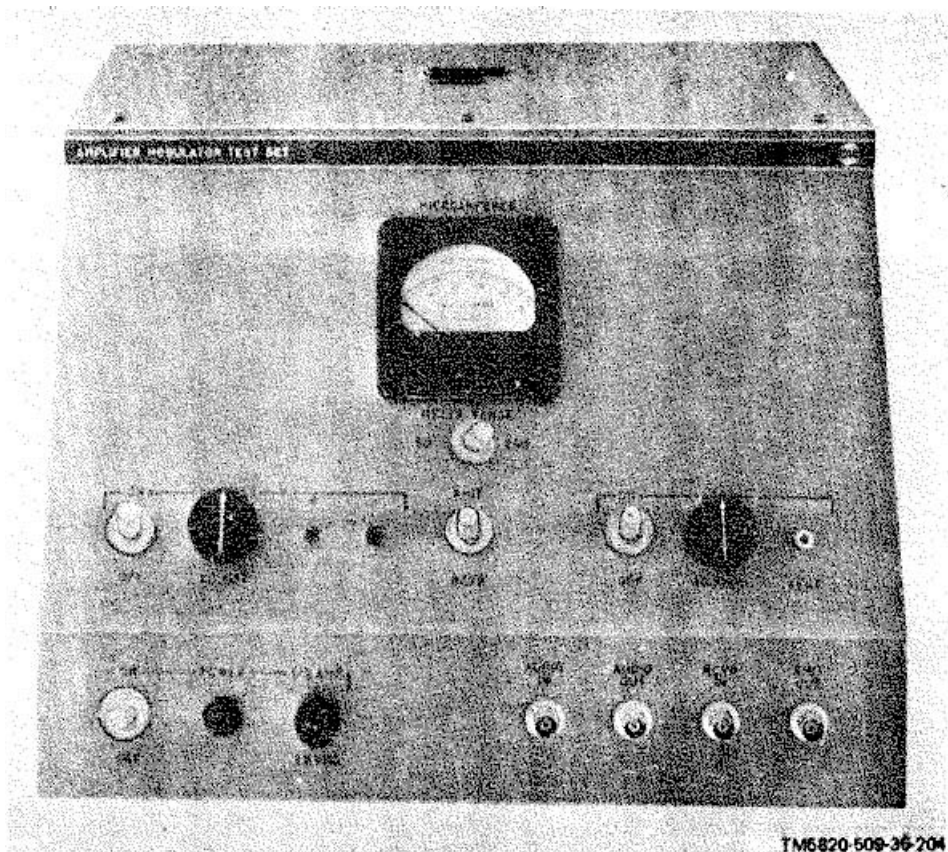
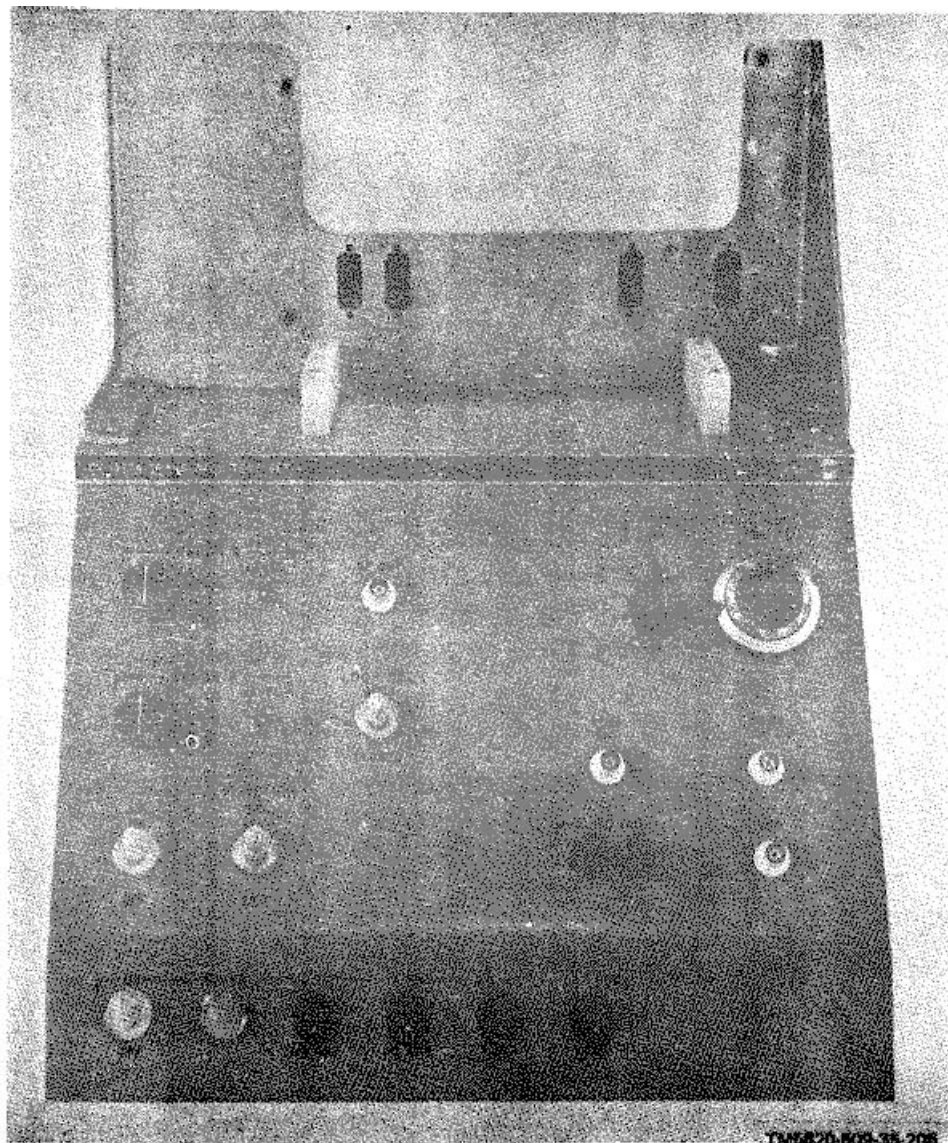
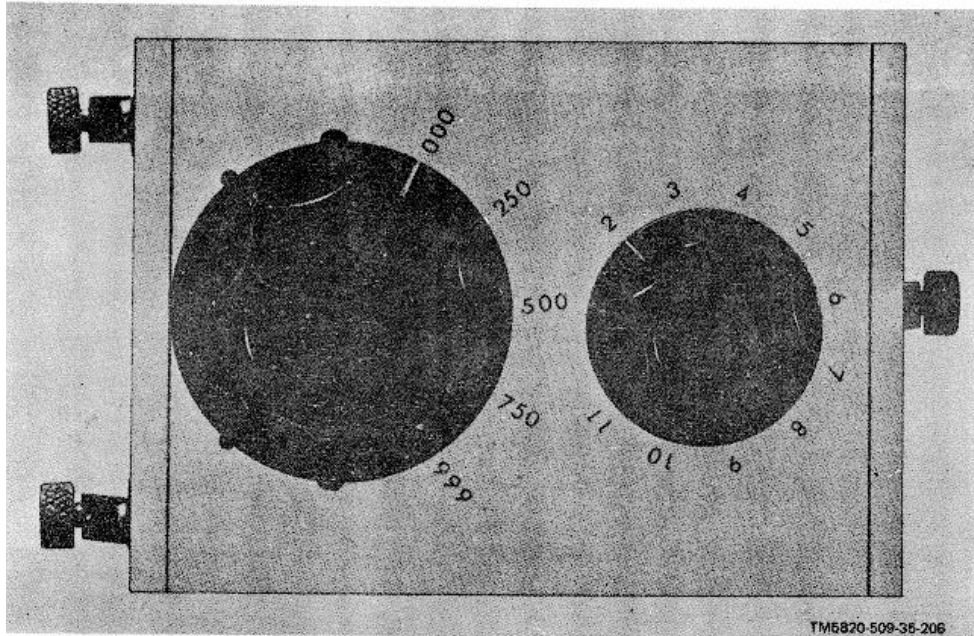
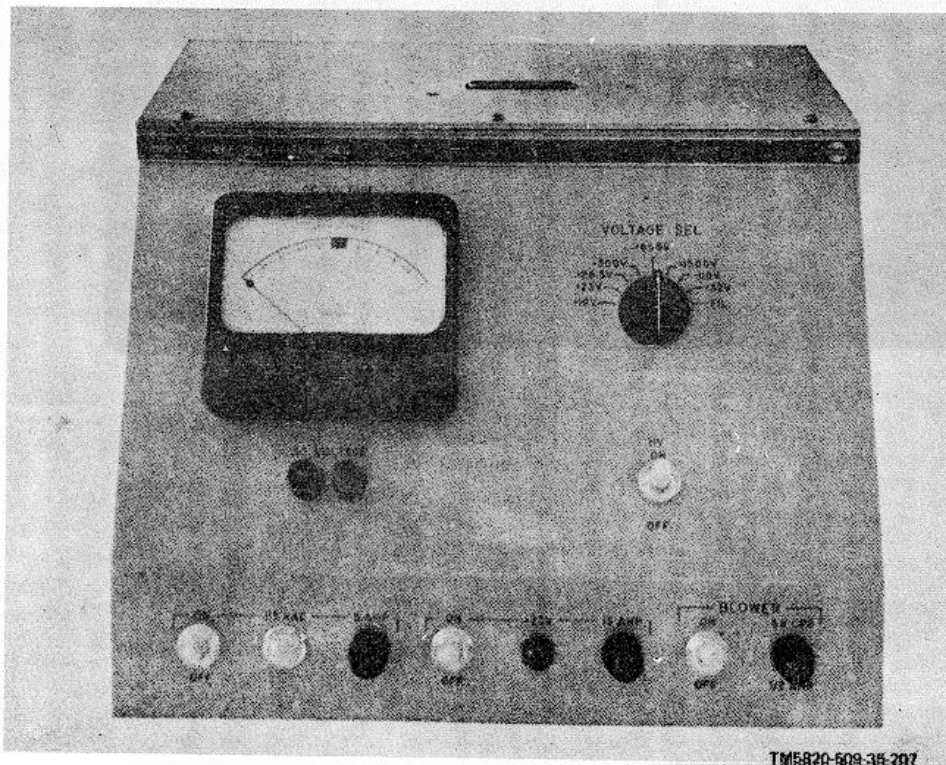

Figure 6-5. Test Fixture for AM-3507/PRC-47, Suggested Layout.
Figure 6-6. Test Fixture for CV-1377A/PRC-47, Suggested Layout.
Figure 6-7. Indexing Fixture for CV 1377A/PRC, Suggested Layout.
Figure 6-8. Test Fixture for PP-3518/PRC-47, Suggested Layout.
| Test fixture for AM-3506/PRC-47 | | Fig. 6-5 |
| Test fixture for AM-3507/PRC-47 | | Fig. 6-6 |
| Test fixture for CV-1377A/PRC-47 | | Fig. 6-7 |
| Indexing fixture for CV-1377A/PRC-47 | | Fig. 6-8 |
- (1) Initial settings and adjustments.
- (2) Maximum output levels, receive mode.
- (3) Frequency response and distortion, receive mode.
- (4) AVC signal gate operation, receive mode.
- (5) Harmonic distortion and frequency response, transmit mode.
- (6) Frequency response at nominal output, transmit mode.
- (7) CW oscillator operation test.6-7.
b. *Amplifier-Modulator AM-3507/PRC-47*. The following tests must be performed using the test fixture for AM-3507/PRC-47 (fig. 6-5). A schematic diagram, parts layout photographs, and parts lists for this test fixture are included in section III.
- (2) Output, receive mode.
- (3) Distortion.
- (4) Selectivity.
- (5) Response, receive mode.
c. *Signal Data Translator CV-1377A/PRC-47*. The following tests are to be performed using the test fixture for CV-1377A/PRC-47 (fig. 6-6) together with the indexing fixture (fig. 6-7). Configuration drawings, parts layout photographs, parts lists and schematic diagrams for these test fixtures are included in section III.
- (1) Mechanical alignment.
- (2) 5- to 14-MHz ringer circuit alignment.
- (3) Oscillator output adjustment.
- (4) Oscillator alignment and tracking adjustment
- (5) Rf alignment, receive mode.
- (6) Rf alignment, transmit mode.
- (7) Oscillator control isolation amplifier test.
d. *Power Supply PP-3518/PRC-47*. The following tests must be performed using the test fixture for PP-3518/PRC-47 (fig. 6-8). A schematic diagram, parts layout photographs, and parts lists for this test fixture are included in section III.
- (2) Performance tests, 26.5-volts dc primary power source.